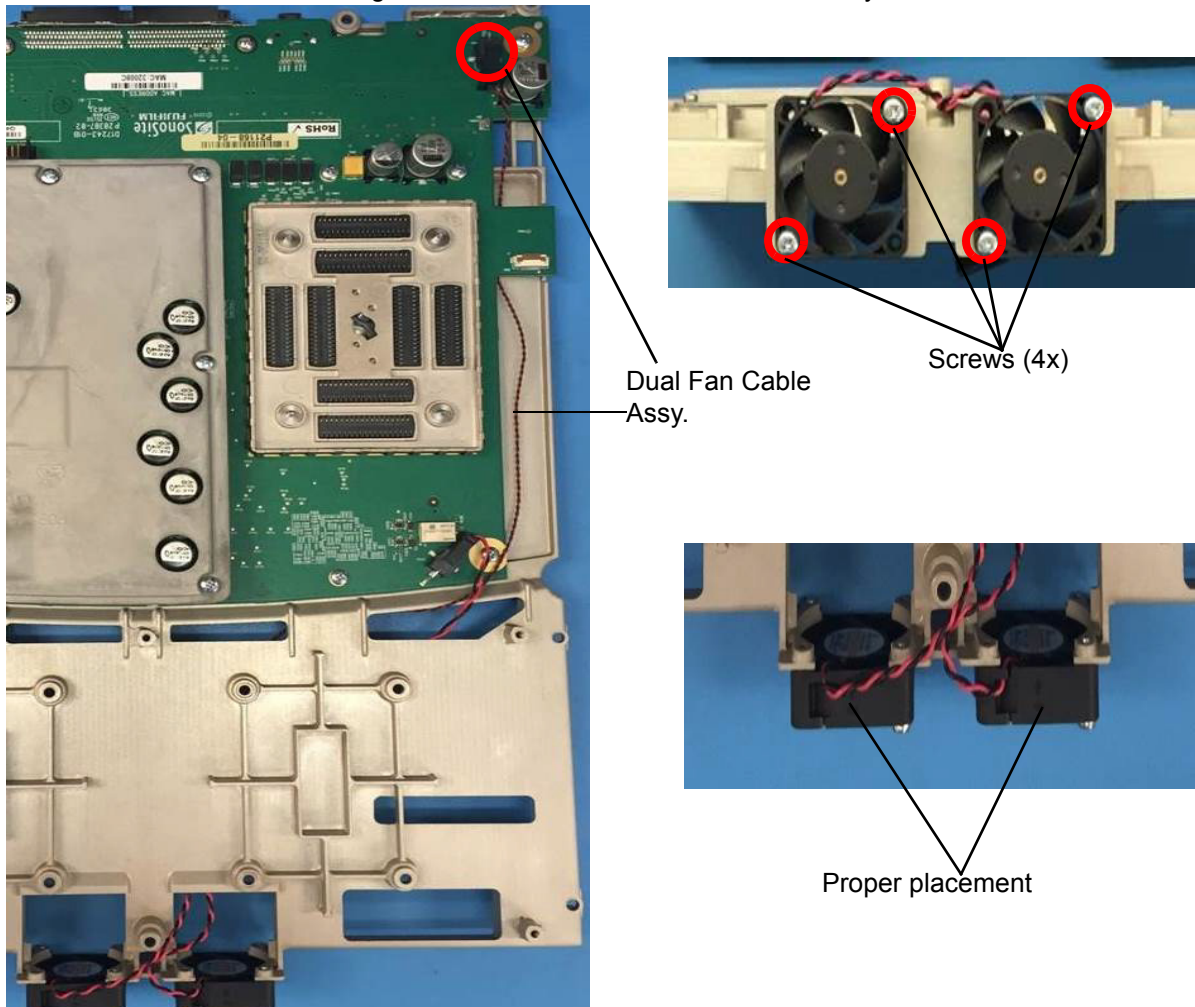

Figure 6.15 Dual Fan Removal
- 1 Disconnect Dual Fan Cable Assembly from Main PCBA as shown in Figure 6.15
- 1 Install Dual Fans on Mid-Frame as shown in Figure 6.15. Ensure the orientation of each fan is so the arrows on the side of the fan point inwards towards the Mid-Frame and the fans are rotated as shown in the bottom picture. Torque screws to 5.5 in-lbs.